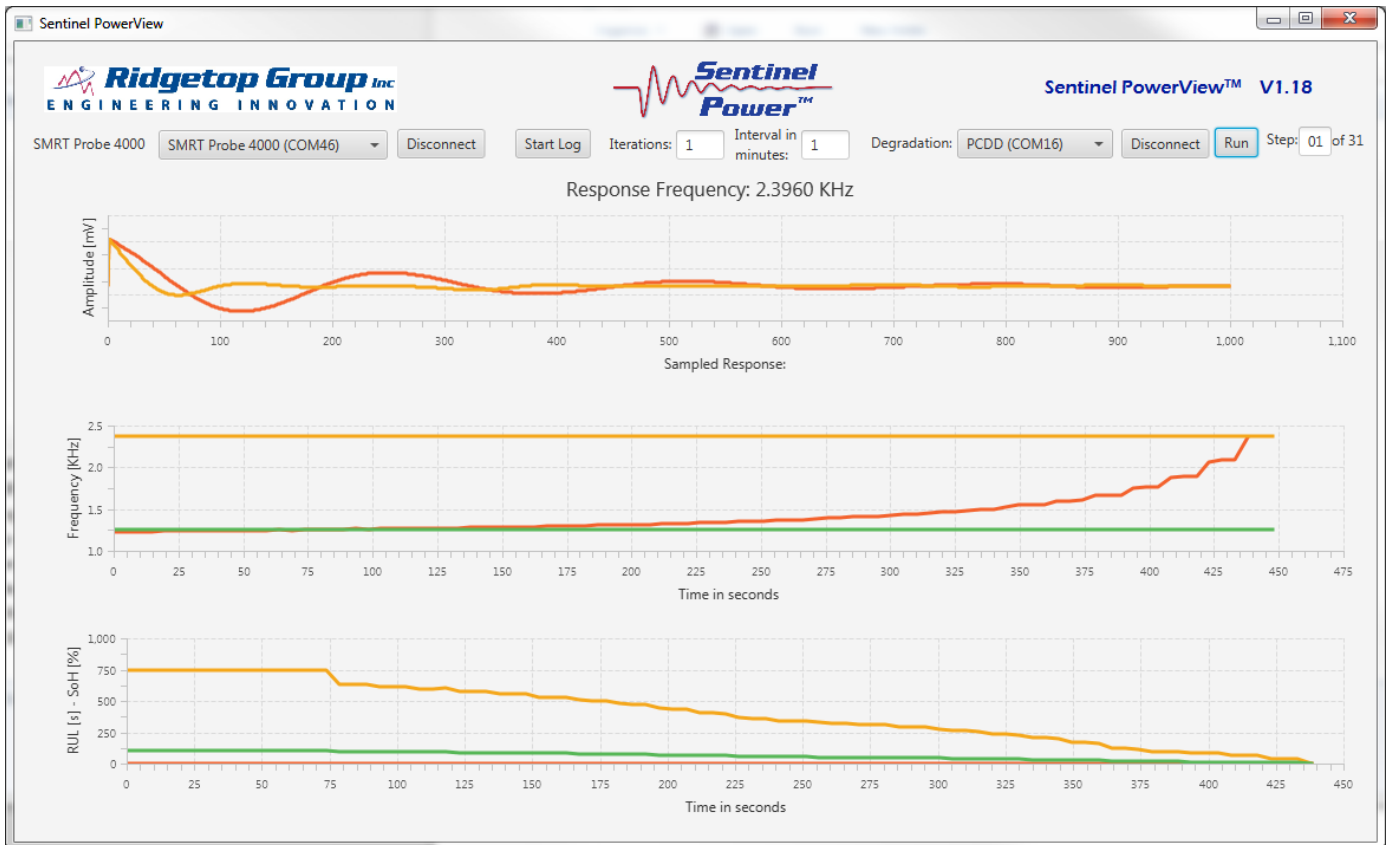

Figure 10: The top graph shows damped waveform and frequency reading; middle graph shows frequency over time; bottom graph shows RUL and SoH over time
3. Double-click the file named **Start Demo**. The Sentinel PowerView GUI appears along with a Windows Command screen; allow the Command window to run in the background (Figure 10).
2. To reset the Demo at any time during the test, click the **Stop** button, then click **Run**. (See Figure 10.)